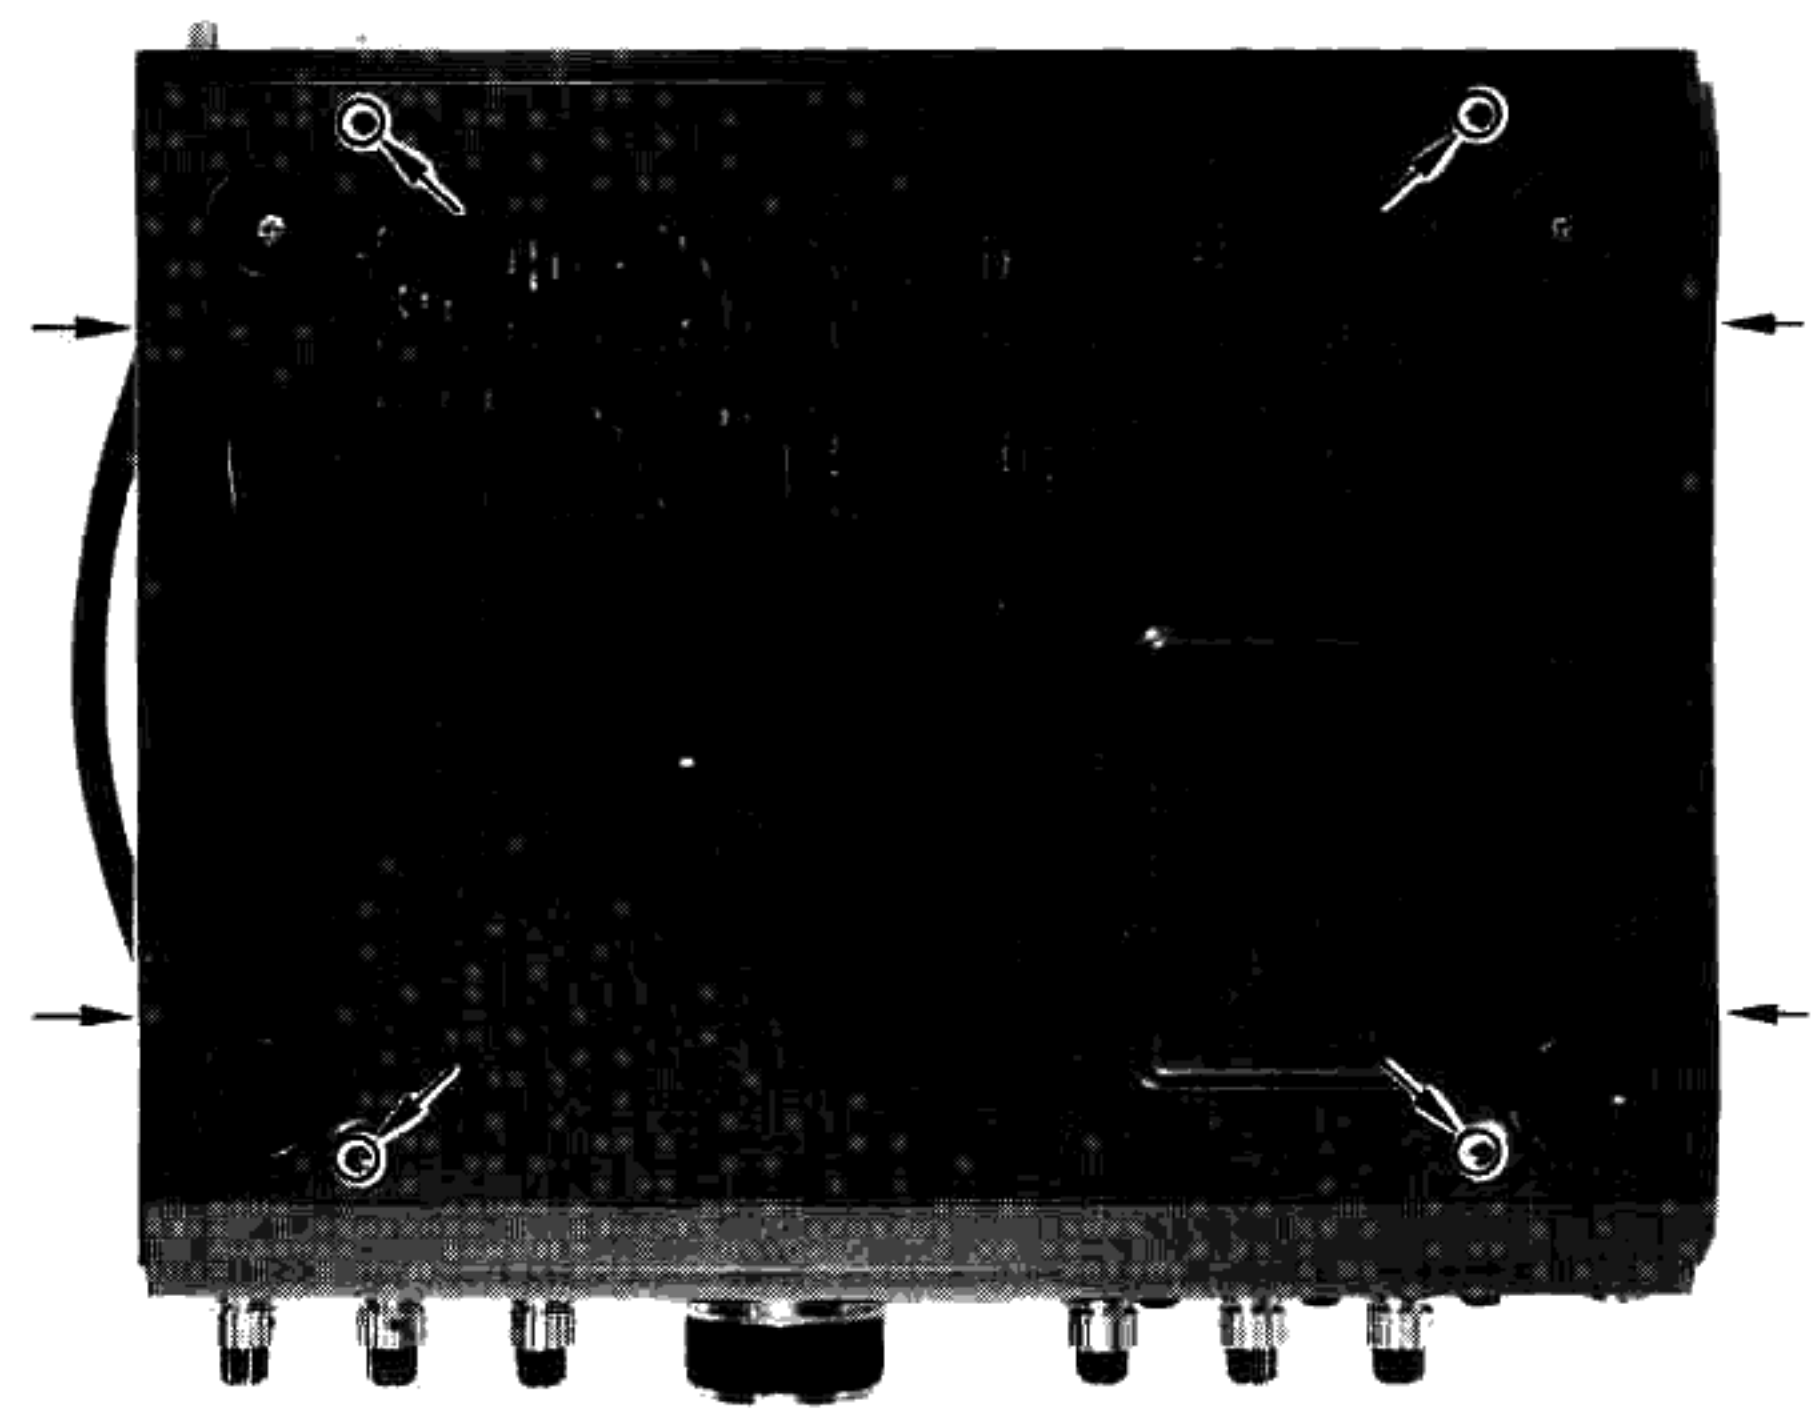

Figure 3
- (4) Place the transceiver upside down, and remove the four screws from the bottom corners and two on either side (including the carrying handle screws). Remove the carrying handle and bottom cover (Fig. 3).